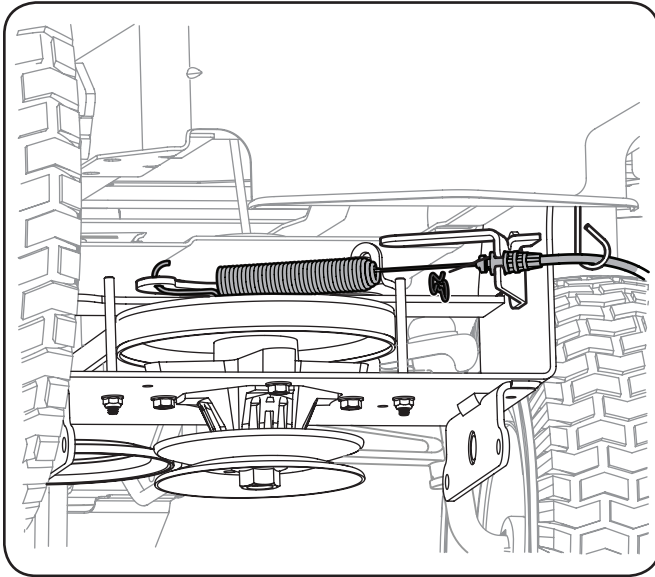
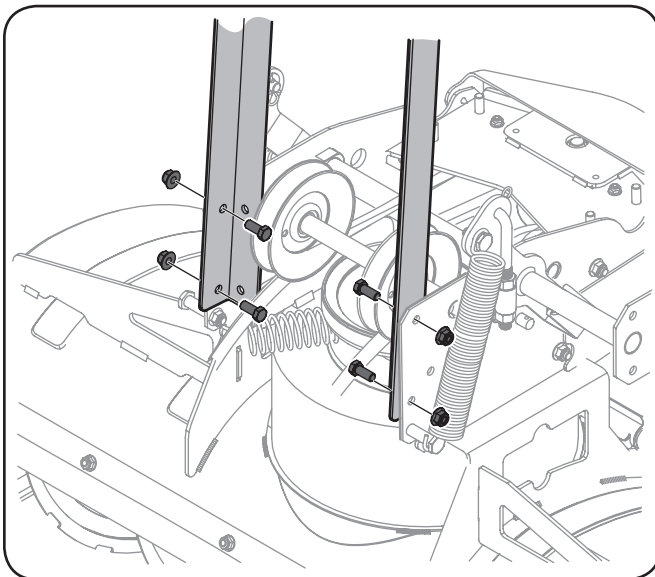

Figure 3-12
Figure 3-13
- On models with a **Manual PTO**, attach the PTO cable to the idler bracket as show in Figure 3-12.
- Carefully pivot the auger housing up and forward until the top front face of the housing is resting on the ground. Refer to Figure 3-12 and Figure 3-13
- Using two 9/16" wrenches, secure the rail assembly to the auger housing assembly with four hex screws and flange lock nuts. See Figure 3-13.